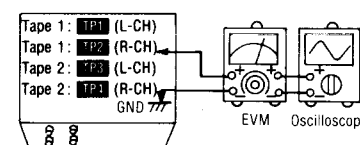

Fig. 7
1. Test equipment connection is shown in Fig. 7.